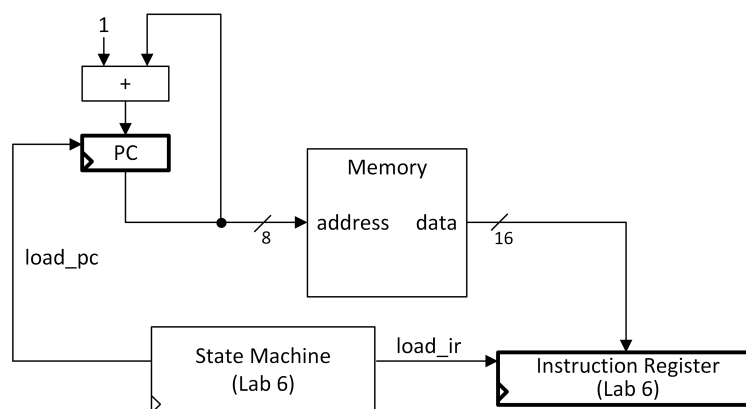
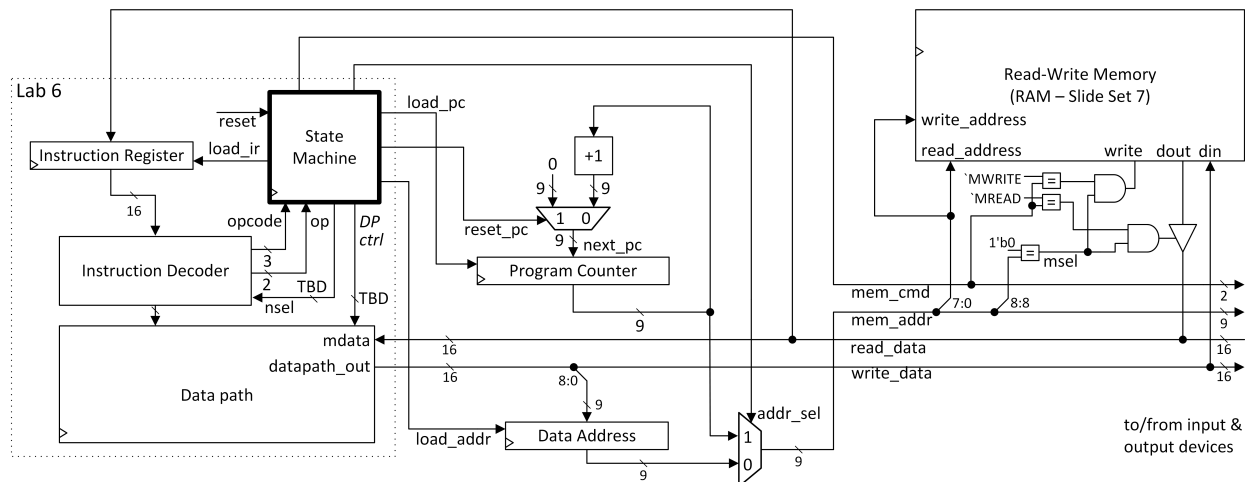
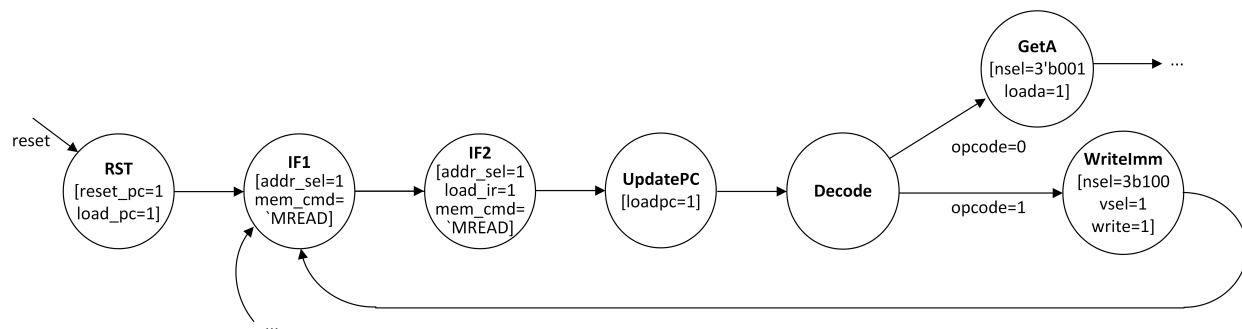
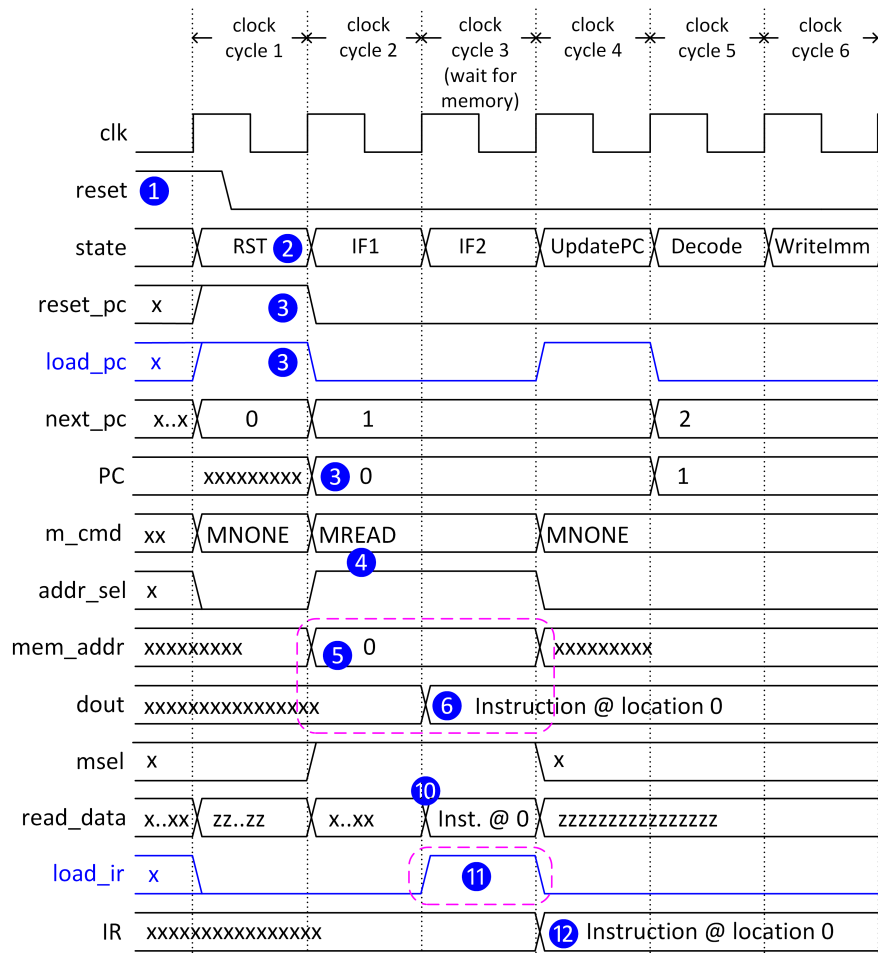

Figure 1: Adding an instruction memory and program counter (simplified).
Figure 2: Connecting memory to your CPU from Lab 6 (this figure described later).
Figure 3: Modified State Machine to Interface with Instruction Memory
Figure 4: Timing of Instruction Read and PC Update (note one cycle delay on dout).
The Simple RISC Machine needs to keep track of which instruction to execute next in the program. This requirement is fulfilled by adding a special register called a program counter (or PC) that is connected to the address input of the memory as illustrated in Figure 1. The program counter is a register with load enable that contains the address of the next instruction that should be executed in a program. The 16-bit value stored in the memory location associated with this address is the next instruction to execute encoded in binary as described in Table 1 in the Lab 6 handout. To execute the 16-bit instruction at that location your Simple RISC Machine must first read the 16-bit value out of that memory location and place it in the instruction register you built in Lab 6. Notice that the program counter is only 8-bits wide. This is because we want our memory to contain 256 memory locations. Recall 8-bits can be used to specify one of  $2^8 = 256$  different things. In this case those things are different memory locations, where each individual memory location can contain either a single 16-bit Simple RISC Machine instruction or, as we will see later, 16-bits of data. Once
Figure 1 is a simplified illustration of how the program counter register is connected to memory, the instruction register and the finite state machine. One thing we omitted was a way to reset the PC to the address of the memory location containing the first instruction in the Simple RISC Machine program that you want to run. We can fix this by adding a multiplexer. To keep things simple we will always put the first instruction in the memory location with address zero, which means that initially we want PC to contain 0. Another simplification in Figure 1 is omitting logic that enables the Simple RISC Machine to store data in memory and to connect to input/output devices. Your Simple RISC Machine can be modified to do those things by adding a multiplexer between the program counter and address input of the memory and a tri-state driver between the output of the memory and instruction register as shown in Figure 2, which will be described in more detail later. (To see how to describe a tri-state driver in Verilog refer to Slide Set 8 on CMOS Logic Gates.) As shown in Figure 1, to control updating of the program counter the load enable input of the program counter is connected to a signal called *load\_pc*. The signal *load\_pc* is set to 1 or 0 by a modified version of the state machine you built in Lab 6. The signal *load\_pc* should be set to 1 by your state machine when you want to update the program counter on the next rising edge of the clock. When the program counter is updated it will contain the address of a new instruction to execute. Similarly, to load the instruction into the instruction register you can add an output called *load\_ir* to your finite state machine and connect it to the load enable input of the instruction register. The signal *load\_ir* should be set to 1 only when the datapath has completed executing the previous instruction and is ready to execute a new instruction.
Figure 3 illustrates how one might change the finite state machine from Figure 4 in the Lab 6 handout to use *load\_pc* and *load\_ir* to update the program counter and load an instruction into the instruction register at the appropriate times. The other signals in this figure (*reset\_pc*, *addr\_sel*, *m\_cmd*) will be described in Section 2.1.1 in connection with Figure 2. The four states *Reset*, *IF1*, *IF2* and *UpdatePC* replace the *Wait* state from Lab 6. The *Reset* state is used to reset the program counter to zero. In state *IF1* the address stored in the program counter is sent to the instruction memory. As described below and in class, unlike the register file you designed in Lab 5, the RAM blocks inside the Cyclone V FPGA in your DE1-SoC support synchronous reads. That means the contents of the memory do not appear on the data output (*dout*) until after the *next* rising edge of the clock after we input the address. Thus, we cannot load the instruction register in state *IF1*. On the next rising edge of the clock the state machine transitions unconditionally to state *IF2* (because there is no label on the arrow from *IF1* to *IF2*). When the state machine is in state *IF2* the 16-bit encoded instruction for the instruction at the address specified by the contents of the PC register should be available at the data output of the memory (*dout*). Thus, in *IF2* we set *load\_ir* to 1. On the next rising edge
of the clock the 16-bits encoding the instruction at address 0 is finally loaded into the instruction register. Then, in state *LoadPC* we set *load\_pc* to update the program counter to the address of the next instruction to execute. The timing of *load\_pc* and *load\_ir* can be seen in Figure 4 which also includes several other important signals from Figure 2.
You will need to modify your state machine to include the four new states that replace the wait state as described in the prior section. The description further below of Figure 4 is intended to help you make these changes. After you make the changes for Stage 1 be sure you can get every instruction introduced in Lab 6 to work. To help you quickly generate data.txt files for initializing your memory with your program you can use the Simple RISC Machine assembler that is available at ~cpen211/bin/sas on ssh.ece.ubc.ca. To use this program, you write a text file containing human readable assembly such as the following:
The operation of Figure 5 can best be understood with the timing diagram in Figure 4 which illustrates the detailed timing of reading an instruction from memory using the state machine in Figure 3. In cycle 0 the reset input (① in Figure 5 and Figure 4) is asserted causing the state machine to enter the *RST* state (②) in cycle 1. In Cycle 1, the state machine asserts *reset\_pc* which causes zero to be input the program counter register and at the same time asserts *load\_pc* which causes this zero value to be loaded by the program counter register (③). In Cycle 2, the state machine sets *addr\_sel* to select the output of the program counter (the other input to this multiplexer will be used for supporting load and store instructions in Stage 2) and at the same time, the state machine sets *m\_cmd* to MREAD to indicate a memory read operation is desired (④). The other possible values for *m\_cmd* are MNONE, for no memory operation and MWRITE for memory write. The value of the constants MNONE, MREAD and MWRITE and the width of the bus *mem\_cmd* are something you need to design. This causes the program counter to be driven to the *mem\_addr* bus (⑤). One cycle later (Cycle 3), the synchronous read operation completes and the 16-bit value of the instruction at address 0 is available on bus *dout* (⑥).
The finite state machine for your LDR instruction should cause the data path to read the contents of the register  $R_n$  inside your register file, add the sign extended 5-bit immediate value encoded in the lower 5-bits of the instruction, then store the lower 9-bits of “ $R[R_n] + s \times (im5)$ ” in the Data Address register in Figure 2. Then, it should set *addr\_sel* to 0 so that *mem\_addr* is set to this value and set *m\_cmd* to indicate a memory read operation. The value read from memory should be saved in  $R[R_d]$ .
The STR instruction should also start by reading the contents of the register  $R_n$  inside your register file, add the sign extended 5-bit immediate value encoded in the lower 5-bits of the instruction, then store the lower 9-bits of “ $R[R_n] + s \times (im5)$ ” in the Data Address register in Figure 2. Then, the contents of  $R[R_d]$  should be read from the register file and output to *datapath\_out* which should now be connected to *write\_data*. Finally, the finite state machine for your store instruction should set *addr\_sel* to 0 so that *mem\_addr* is set to this value and set *m\_cmd* to indicate a memory write operation.